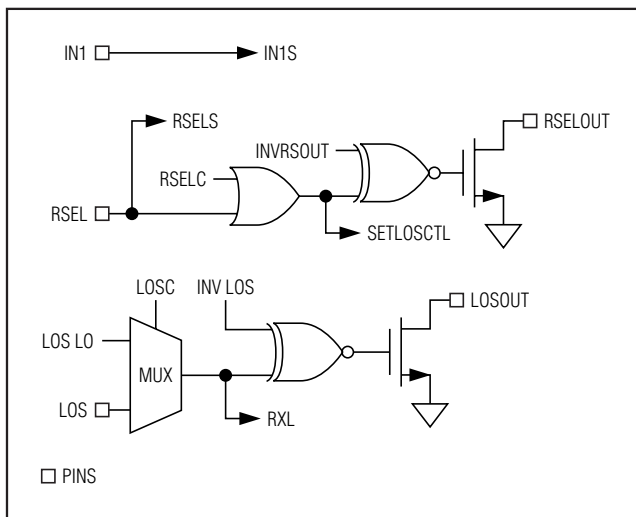
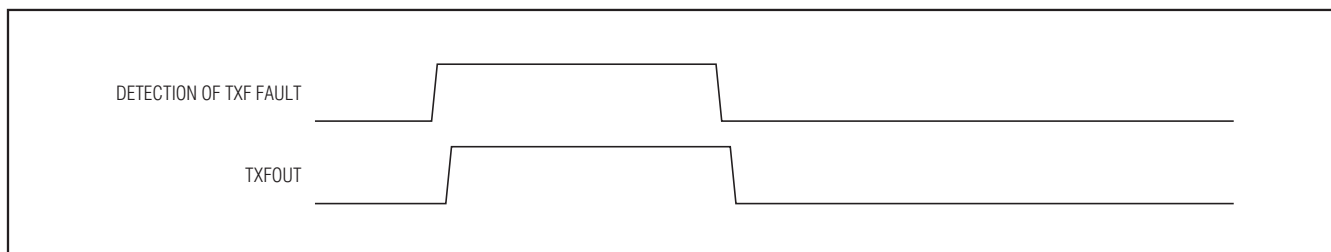

Figure 16. Logic Diagram 2
Figure 17a. TXFOUT Nonlatched Operation
The digital input IN1 and RSEL pins primarily serve to meet the rate-select requirements of SFP and SFP+. They also serve as general-purpose inputs. RSELOUT is driven by a combination of the RSEL and logic dictated by control registers in the EEPROM (Figure 16). The levels of IN1 and RSEL can be read using the STATUS register (Lower Memory, Register 6Eh). The open-drain RSELOUT output is software-controlled and/or inverted through the STATUS register and CNFGA register (Table 02h, Register 89h). External pullup resistors must be provided on RSELOUT to realize a high logic level. The RSEL pin determines the value sent by the 3-wire master to the limiting amplifier's SETLOS register. When RSEL is high, SETLOSH is used. When RSEL is low, SETLOSL is used. The DS1878 can transmit a bit on the 3-wire bus to Register 0x00 (bit 1) of the MAX3945, MAX3798, MAX3799, or RXCTRL1 (Table 02h, Register E8h) within 80ms of a transition (rising or falling) on the RSELOUT. This bit indicates the status of RSELOUT.
TXFOUT can be triggered by TXF input and all alarms, warnings, and quick trips (Figure 16). The six ADC alarms, warnings, and the LOS quick trips require enabling (Table 01h/05h, Registers F8h, FCh–FDh). See Figures 17a and 17b for nonlatched and latched operation. Latching of the alarms is controlled by the CNFGB and CNFGC registers (Table 02h, Registers 8Ah–8Bh).
By default, TXD does not impact TXFOUT (TXD\_TXFEN = 0). This is shown in the Figure 17c. When TXD\_TXFEN = 1, TXD affects TXFOUT. The particular behavior is described in Figure 17a and 17b.
**Note 2:** Either SETLOSH or SETLOSL is written to the slave register SET\_LOS. This is determined by the signal RSEL (see Figure 16).